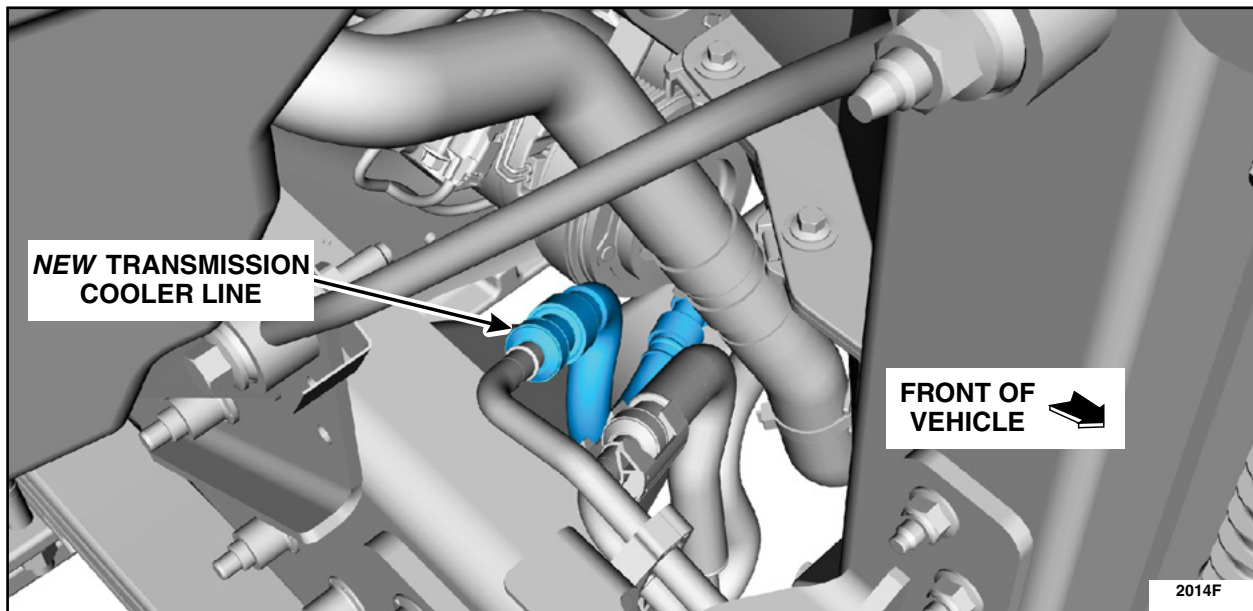

FIGURE 7
8. Install the new transmission cooler line in the proper orientation. See Figure 7.